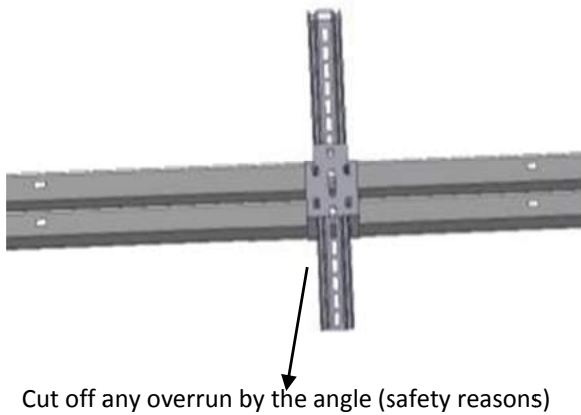

Figure 22: suspension from the ceiling
- Slide the suspension angles (ref SG054P0) into the double track supports (ref SG047P0) see figure 22.